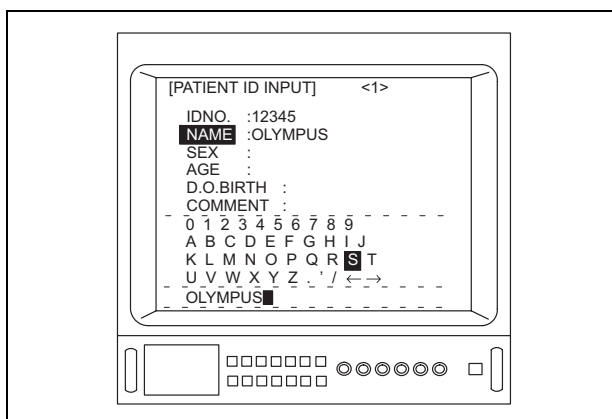

Figure 5.47
10. Repeat steps 8. and 9. to input the patient’s name (for example, “OLYMPUS”) (see Figure 5.47).